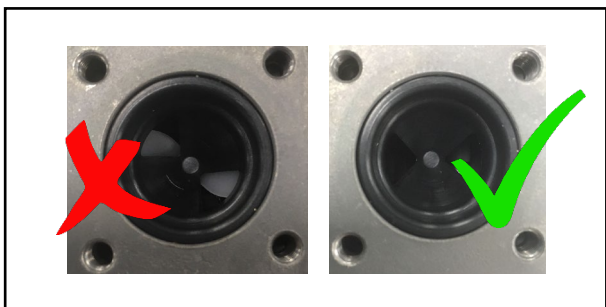

Fig .8
*if no stop can be felt remove gas valve and ensure butterfly valve is open all the way (no white seen) (fig.8).